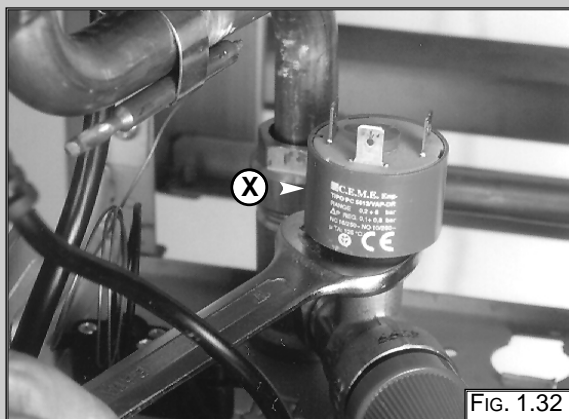

FIG. 1.32
2. Unscrew the pump pressure switch by using a spanner on the nut "X" (Fig. 1.32);